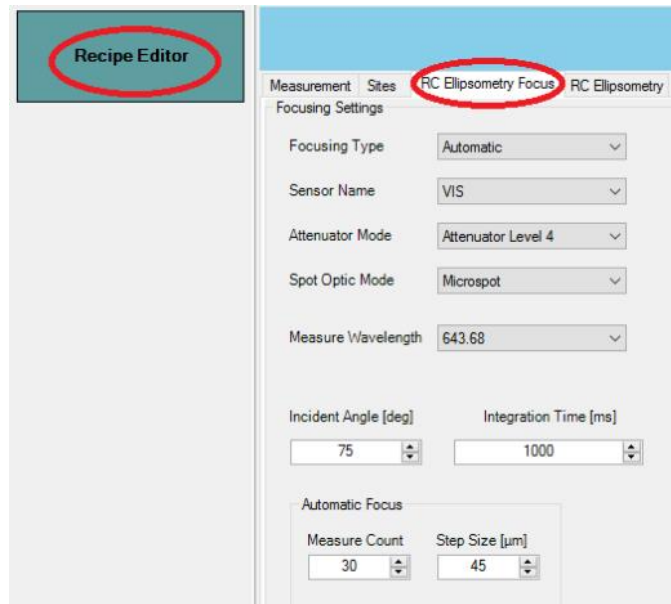

Figure.14
23. Go to "RC Ellipsometry Focus". (Figure. 14)